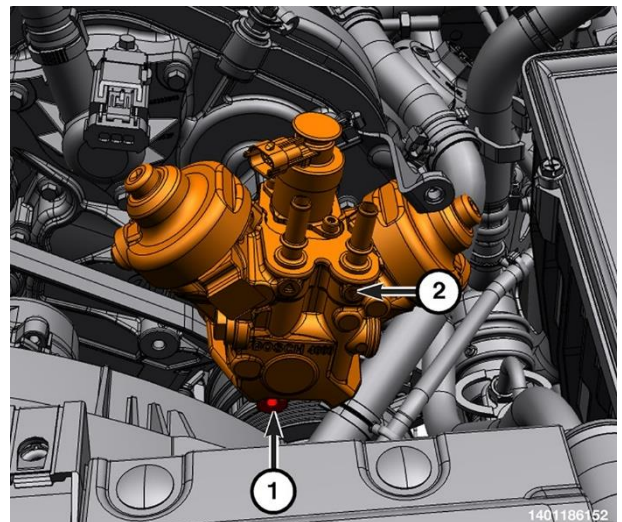

Figure 201 – HPFP Lower Bolt
- 46. Install the fuel injection pump (2) onto the Tool, High Pressure Pump Installation VM.10345 into the studs installed in the upper timing cover (Figure 201).
- 47. Install the fuel injection pump and hand tighten the lower bolt (1) (Figure 201).